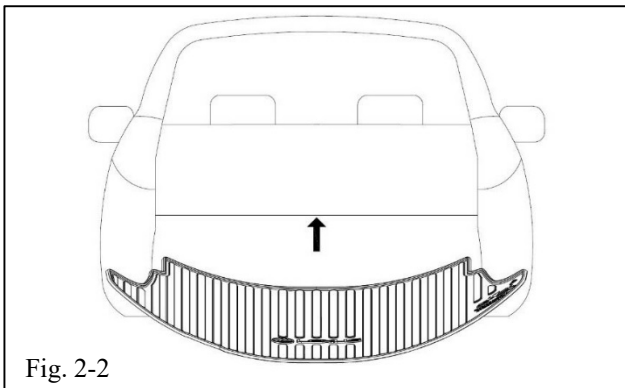

Fig. 2-2
- (b) Grasp the tray by the sides and fold it up and inward sufficiently to slide it into the rear compartment (Fig. 2-2).